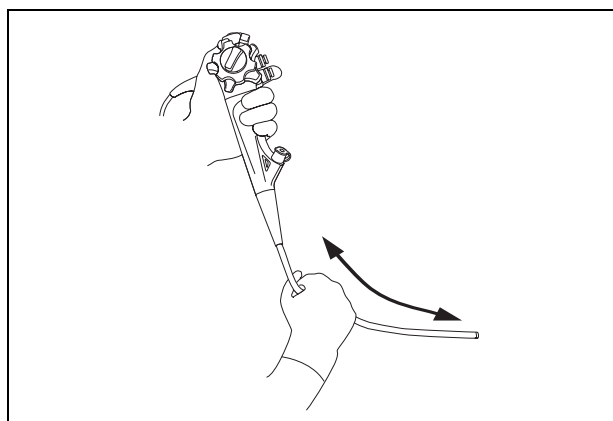

Figure 3.2
4. Gently holding the insertion section with one hand, carefully run your other hand back and forth over the entire length of the insertion section (see Figure 3.2). Confirm that no objects or metallic wire protrude from the insertion section. Also, confirm that the insertion tube is not abnormally rigid.